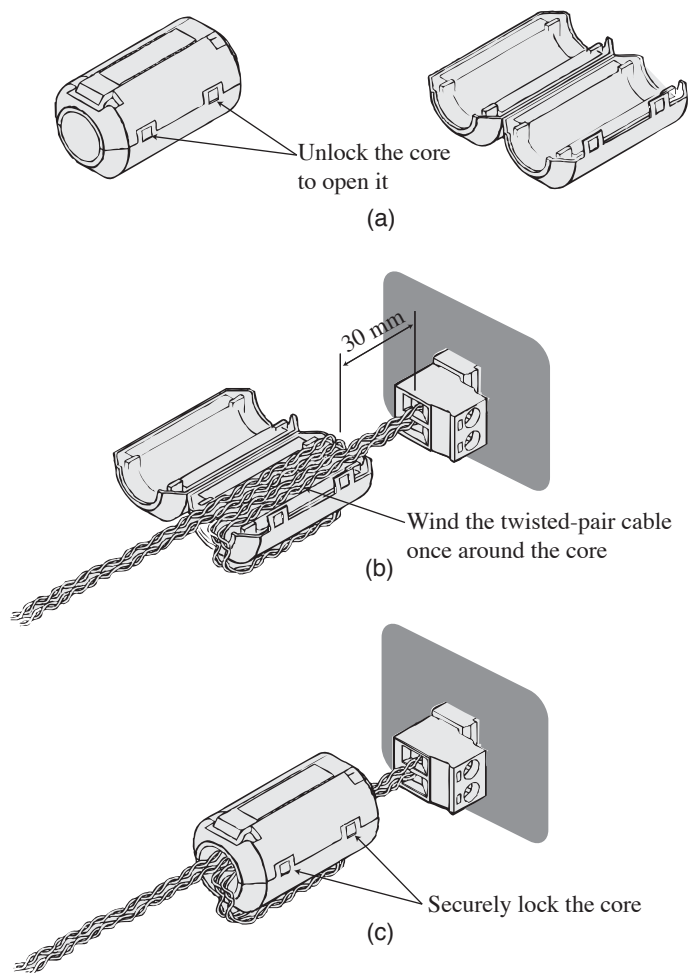

Fig. 1-4 Installing a TP-BUS core
1. As shown in Fig. 1-4 (a), unlock the core to open it.
Keep the distance between the core and the connector within 30 mm. See Fig. 1-4 (b).
3. Close the core. Check that the cable is fully within the core. See Fig. 1-4 (c).